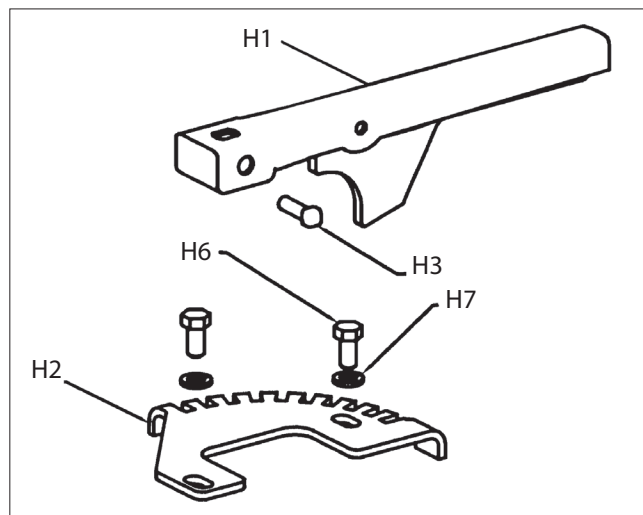

Figure 9. Handle Subassembly
8. Two body seals (40) are required between the seat tail and the body as shown in (Figure 9). The valve uses a graphite type gasket. This is installed in accordance with the following steps.
- c. Apply the two body seals (40) to the body, and if a lug style, take care to align the holes in the gasket with the insert screw holes.
9. Verify the disc is in the level position and install the seat (5) and insert (2) (See **Figure 9**).